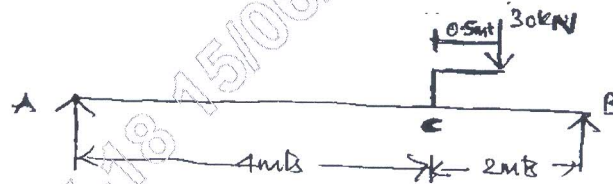

Fig.Q5(b)
- b. For the beam shown in Fig.Q5(b), determine the deflection at C. Take $EI = 10,000$ kN-mt². (10 Marks)